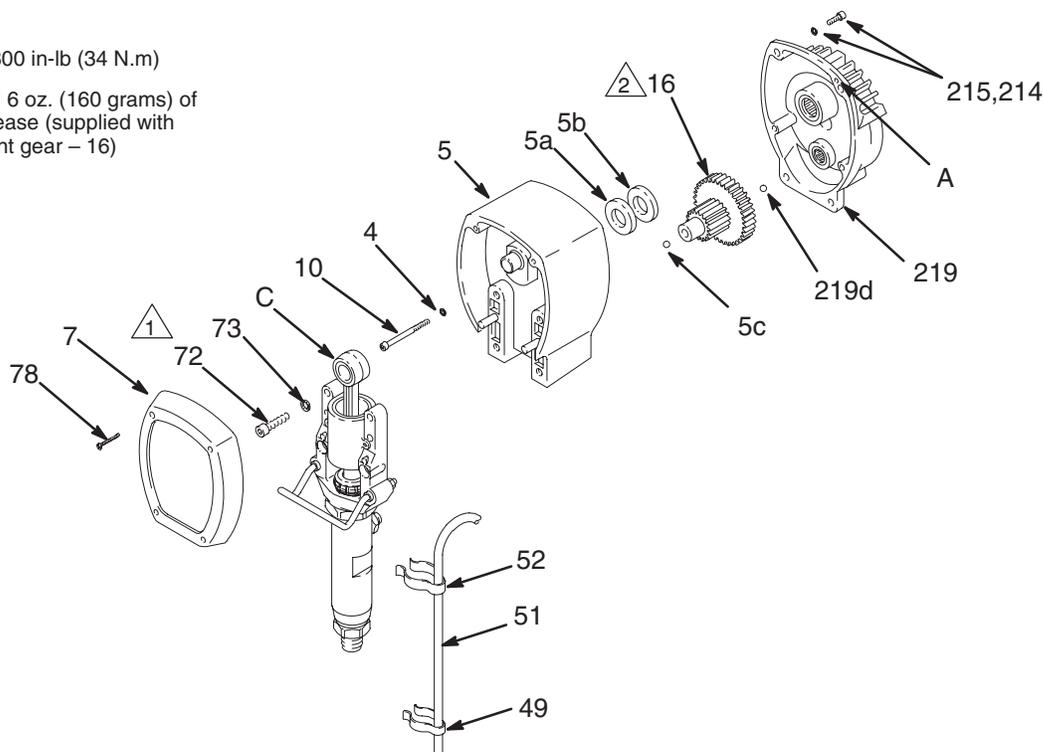

Fig. 8
**NOTE:** Refer to Fig. 8 for this procedure.
2. Unscrew the hose from the pump. Remove the spring clips (40,52) and the drain hose (51) from the pump.
3. Remove the four screws (72) and lockwashers (73) from the bearing housing (11).
4. Lightly tap the back of the bearing housing (11) with a plastic mallet. Pull the pump, bearing housing and connecting rod away from the drive housing as one assembly (C).
5. Remove the two drive housing screws (10) and lockwashers (4). Remove the four pinion housing screws (215) and lockwashers (214).
6. Lightly tap around the drive housing (5) to loosen it. Pull the drive housing straight off the pinion housing (219). Be prepared to support the gear cluster (16) which may also come out.
7. Apply the full 6 oz. (160 grams) of bearing grease, which is supplied with a replacement gear, to the gear cluster (16). Be sure the thrust balls (5c and 219d) are in place.
8. Place the bronze colored washer (5a) and then the silver-colored washer (5b) on the shaft protruding from the big gear of the drive housing (5). Align the gears and push the new drive housing straight onto the pinion housing and locating pins (A).